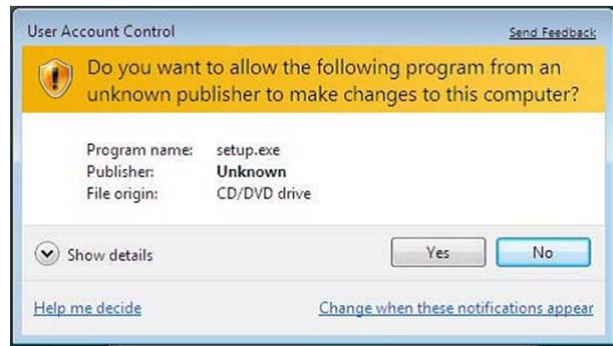

Figure 5. User Account Control Dialog Box
2. Click **Yes** in the **User Account Control** dialog box to permit the installer to create necessary directories and files (see Figure 5).